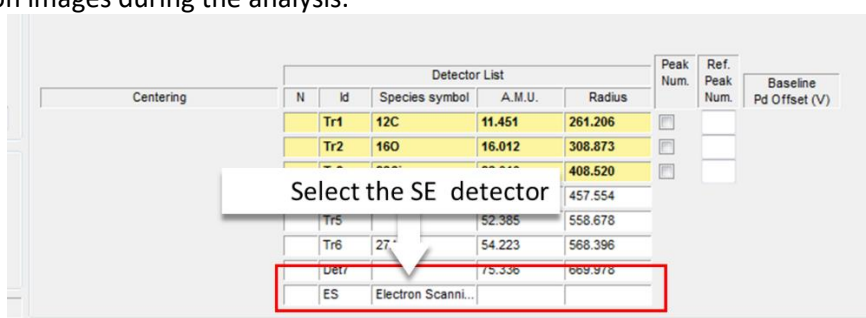

Figure 329: select SE detector in Def Analysis
**Image acquisition:** it is also possible to acquire an SE image alongside the ion images in an image acquisition. Simply select “SE” in list of detectors in Def Analysis (Figure 329). The SE image will then be acquired in parallel of the ion images during the analysis.